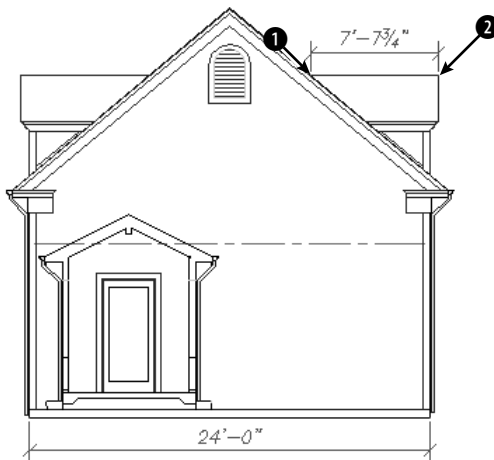

Figure 15-27: The dimension style is now complete.
10. To see how the stacked fractions appear, create a linear dimension from ❶ to ❷ in Figure 15-27. If necessary, zoom in to see the dimension text clearly.
11. Return to the previous view if you zoomed in. Save your drawing. It should look like Figure 15-27.